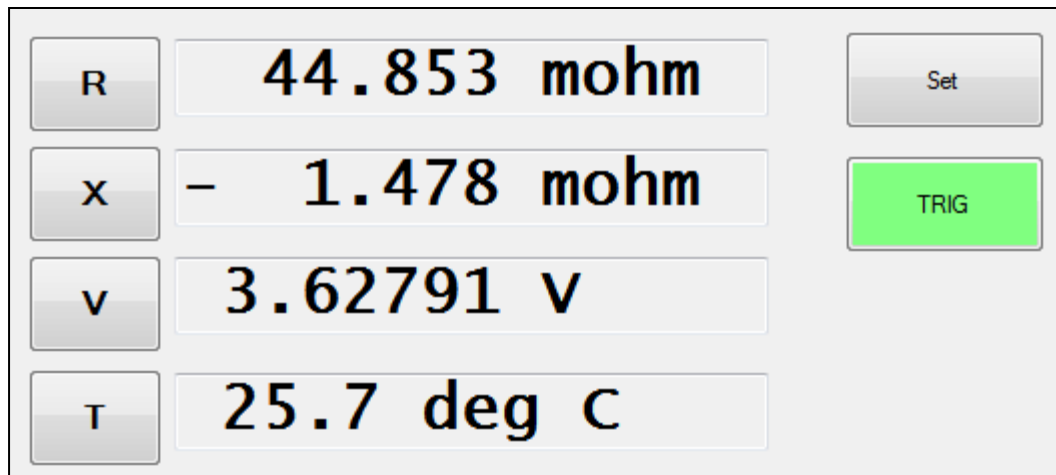

Fig 3-12. Display measurement values
- (1) Click [TRIG].
- (2) The measurement will be performed the under the current measurement condition, then the result will be displayed. (Fig 3-12)